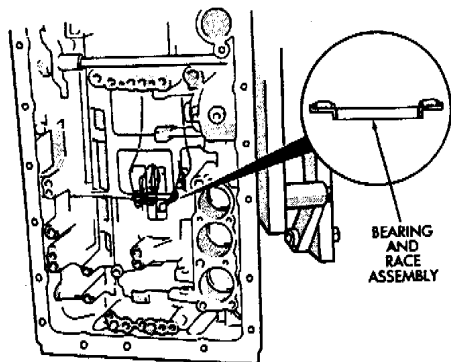

Fig. 2 Removing/Installing Bearing And Race Assembly
(1) Remove bearing and race assembly from transmission case (Fig. 2).